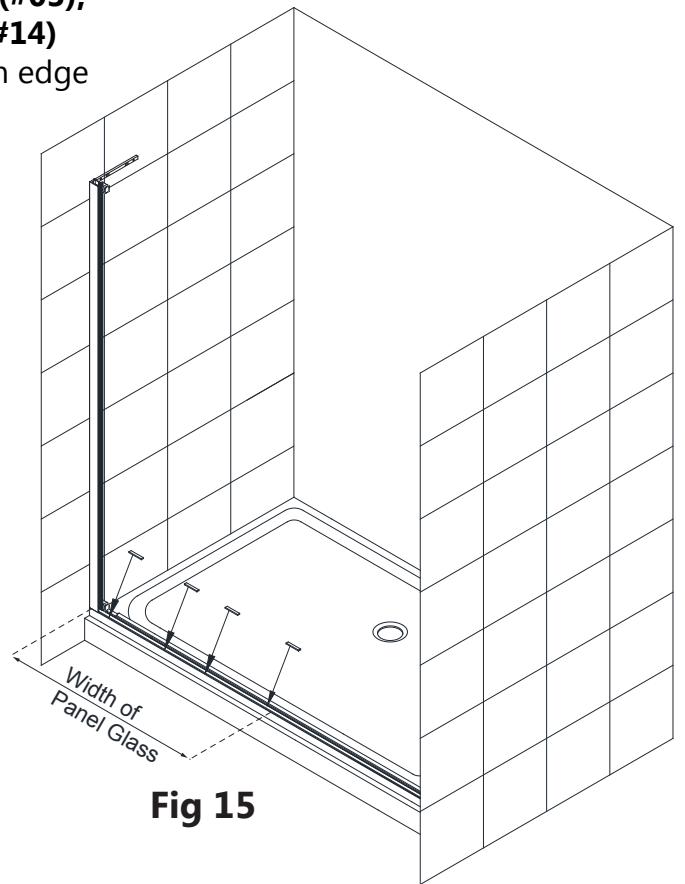

Fig 15
14. After applying silicone into the **Bottom Guide Rail (#03)**, add the 2" pieces of the **0.5mm Bottom Spacer Strip (#14)** into the **Bottom Guide Rail (#03)** to protect the bottom edge and corners of the **Stationary Panel Glass (#01)**. **(DO NOT install one long continuous strip).** (Fig 15)